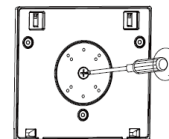

Fig. 1.2
2. Use a screwdriver to remove the plug (Fig. 1.2).